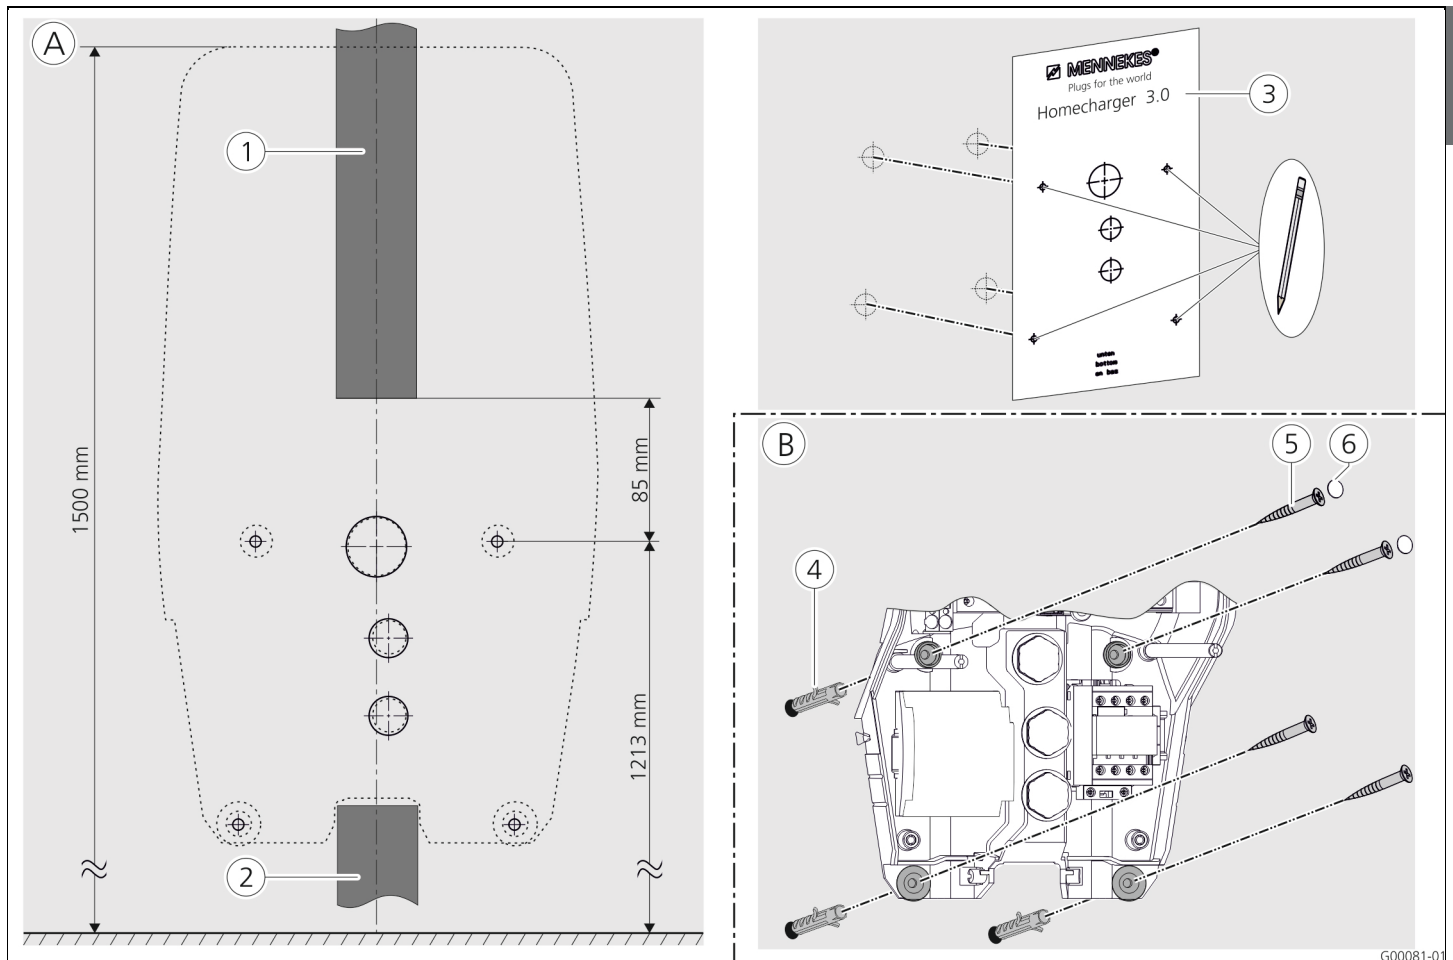

Fig. 13: Wall mounting
- ➔ See also Fig. 13: Wall mounting.
➔ See also Fig. 13: Wall mounting.